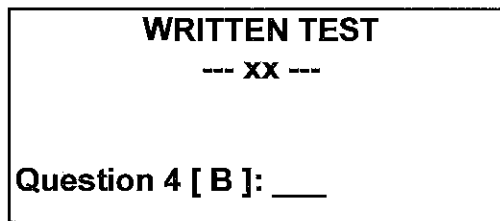

Figure 5
The brackets should be empty for Question 2 unless you did not follow the instructions. This is the question that you were told to skip. Refer to Question 2 in the booklet and enter the correct answer (4) to continue. Your display should sequence to Question 3. Type **R4** to recall Question 4 so that you can correct the answer entered incorrectly earlier. Your display should look like Figure 5.